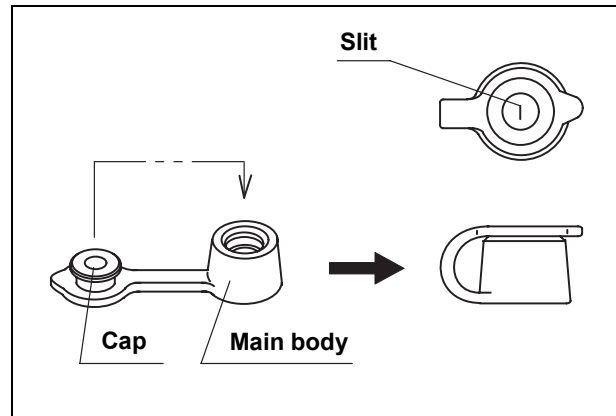

Figure 3.10
2. Attach the cap to the main body (see Figure 3.10).